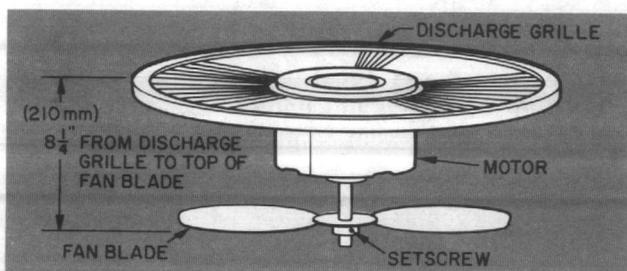

Fig. 26 — Condenser Fan Position
7. Reverse procedure for reassembly. Before replacing metal fan, be sure rain shield is in place on motor shaft. Seal with Permagum around hub to prevent entry of water between hub and shaft. Make sure fan is positioned correctly as shown in Fig. 26.